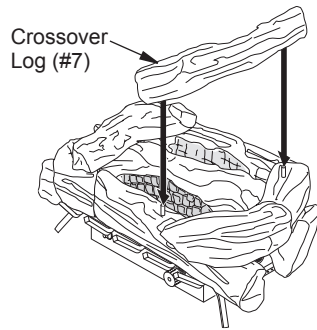

Figure 25 - Installing Crossover Log (#7)
- Place crossover log (#7) onto pin on crossover log #6 and pin on right front log (#4) (see Figure 25).